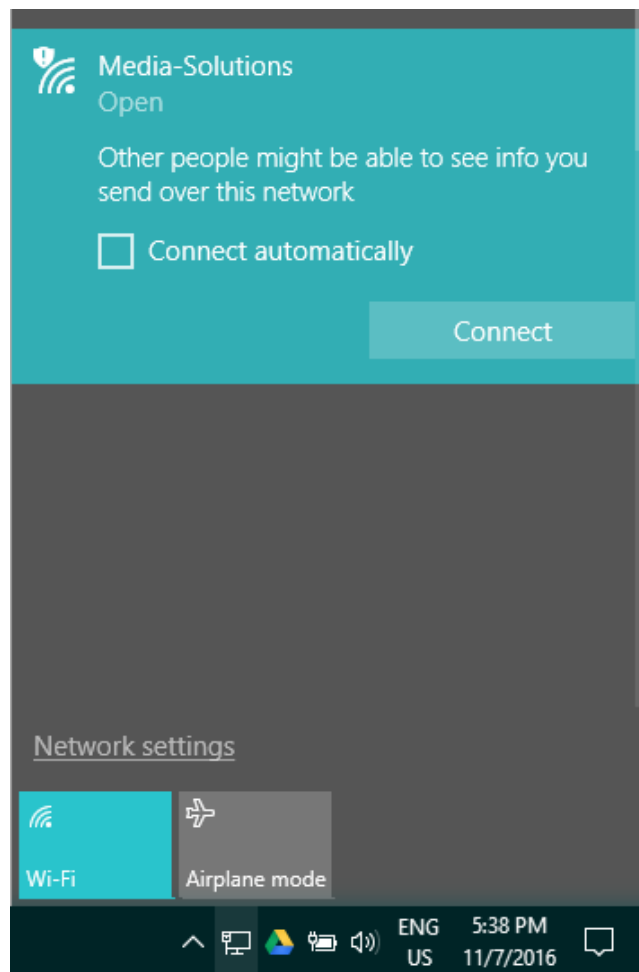

Figure 32: Connecting to the Media-Solutions Network
3. Select the "**Media-Solutions**" network from the list, and tap on the **Connect** button that appears on the screen (see Figure 32 below).